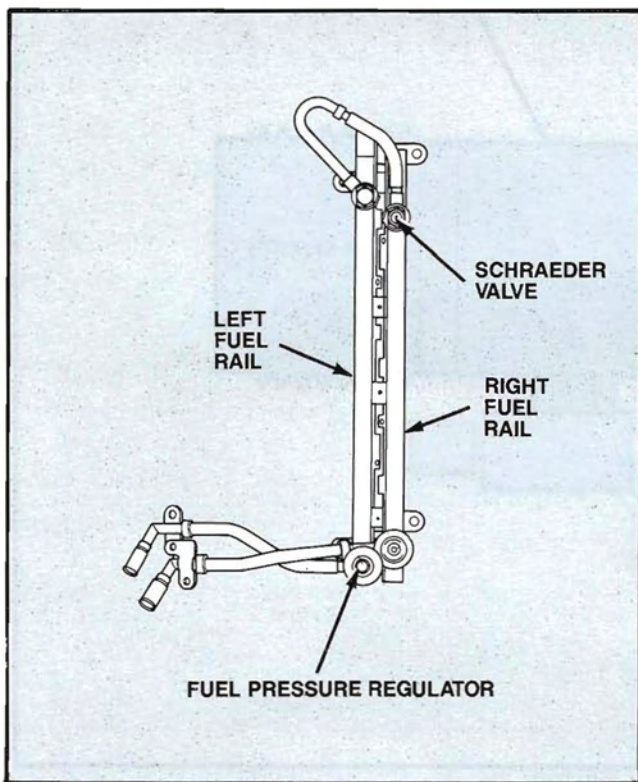

Figure 184. Schraeder Valve
- Remove the cap from the Schraeder valve (Fig. 184).